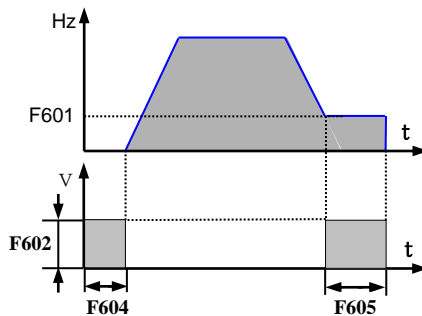

Figure 5-11 DC Braking
- DC braking, as shown in Figure 5-11